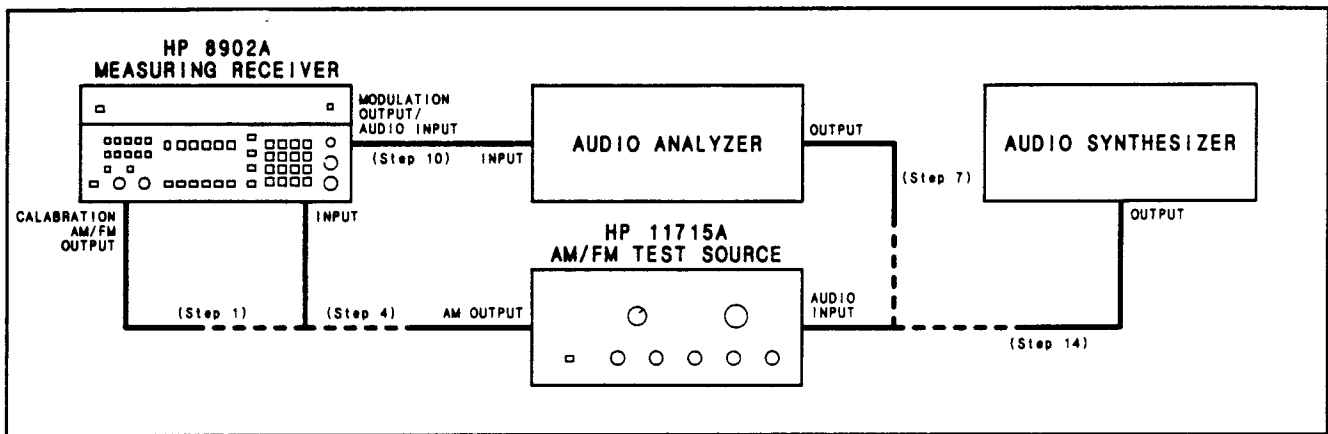

Figure 4-1. AM Performance Test Setup
- On the AM/FM test source, set the test mode switch to AM. Connect the test source AM output to the Measuring Receiver's INPUT. (See Figure 4-1. Nothing should be connected to the test source's audio input.)
- Set the audio analyzer's oscillator to 20 kHz. Connect its output to the audio input of the AM/FM test source. (See Figure 4-1.)
- Connect the audio analyzer's input to the Measuring Receiver's MODULATION OUTPUT/AUDIO INPUT. (See Figure 4-1.) Set the audio analyzer to measure the distortion on the 20 kHz signal at the MODULATION OUTPUT/AUDIO INPUT with 80 kHz of low-pass filtering (on the audio analyzer). The distortion should be 0.3% or less (-50 dB or less).
Set the multifunction synthesizer to 1 kHz at +1 dBm. Connect its output to the audio input of the AM/FM test source. (See Figure 4-1.) Fine adjust the audio synthesizer level for a Measuring Receiver display of 80% AM.